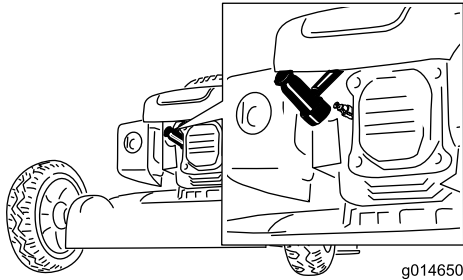

Figure 39
2. Disconnect the spark plug wire from the spark plug (Figure 39) before performing any maintenance procedure.